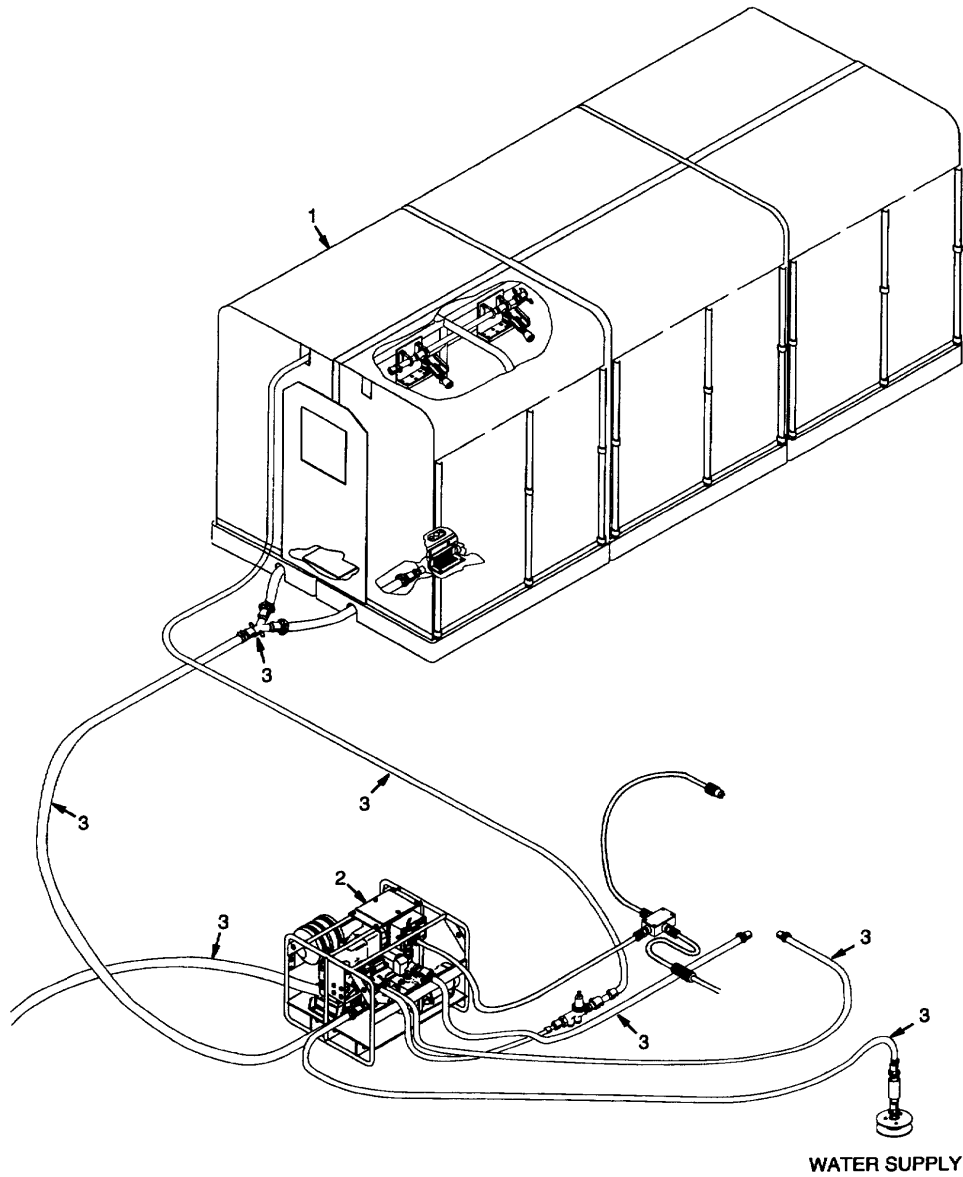

Figure 1-2. Major Components
1.10. LOCATION AND DESCRIPTION OF MAJOR COMPONENTS. Refer to Figure 1-2.